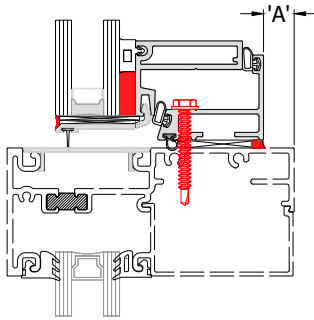

FIG. 2
- Insert and slide the window into the opening. See **FIG. 2**